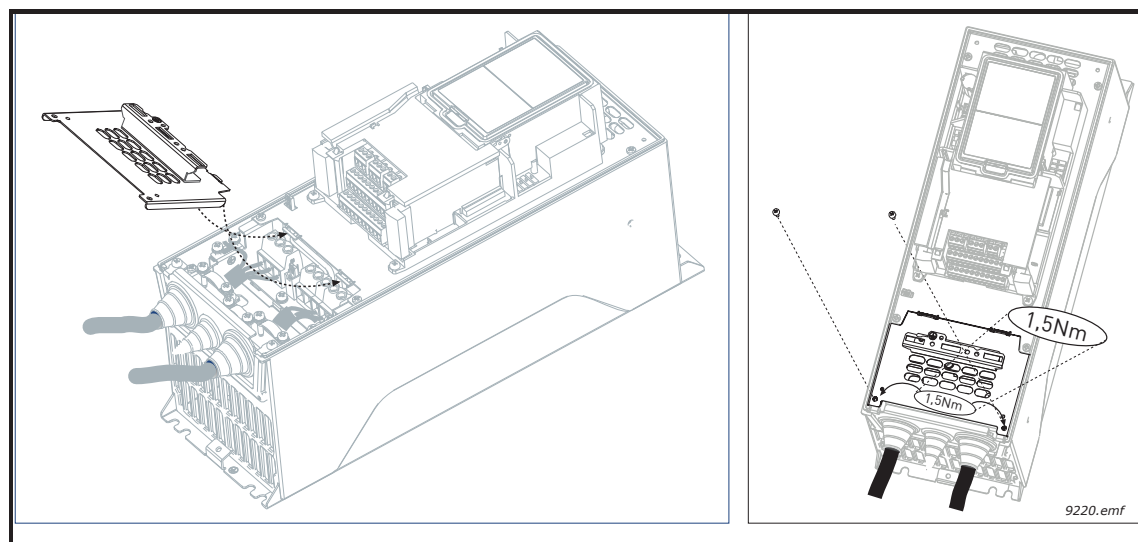

Figure 26. Re-mounting of cover components
**9** Re-mount the cable protection plate (Figure 26) and the cover of the drive.